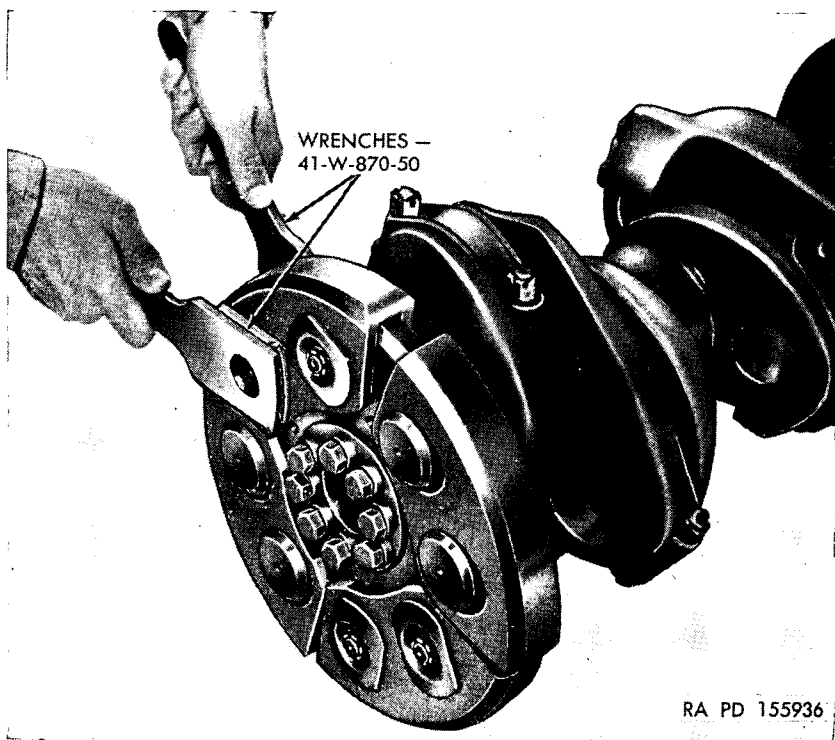

Figure 66. Removing vibration damper counterweight pins.
d. Remove the cotter pins from the four damper female counterweight pins (K, fig. 70) which hold the two remaining counterweights. Use wrenches 41-W-870-50 (fig. 66) to unscrew the four pins. Remove the four damper male counterweight pins (H, fig. 70), pin bushings (J, fig. 70), and the female pins. Remove the two counterweights.
b. Assemble two of the four counterweights to the crankshaft damper hub, using the damper male counterweight pins (H), pin bushings (J), and the damper female counterweight pins (K, fig. 70) in the positions shown in figure 66. Note that the coun-
terweights must be located between counterweights stop plate bolt holes in order to install the counterweight stop plate when the counterweights are in place. Tighten the pins, using wrench 41-W-870-50 (fig. 66). Line up the slots in the female pin nuts with cotter pin holes in male pin and install the cotter pins. Assemble the other two counterweights to the hub, using the damper counterweight pins (C, fig. 70). Assemble the counterweight stop plate (B, fig. 70) to the hub and secure with four bolts and safety wire (fig. 69).